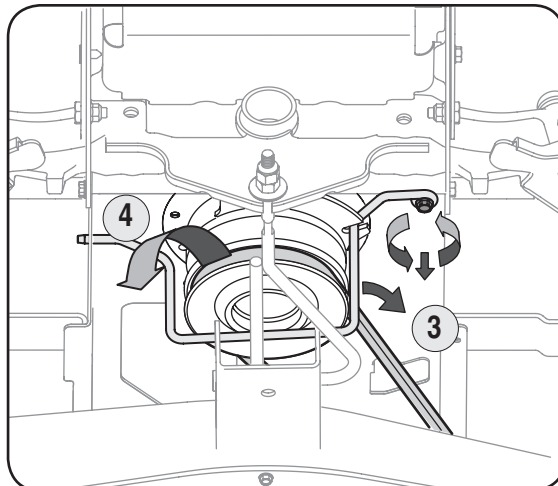

Figure 6-4
3. Remove the belt keeper rod from around the engine pulley by removing the self-tapping screw. See Figure 6-4.